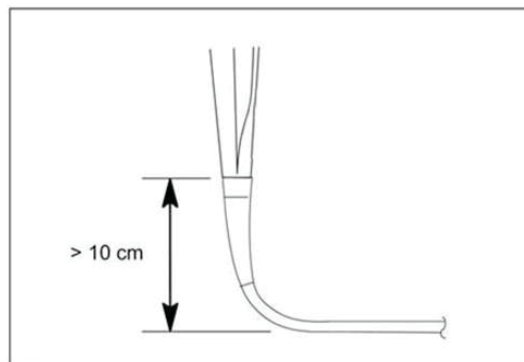

Fig 4.3
- Do not allow the insertion tube to be bent within a distance of 10 cm or less from the junction of the protective boot. Insertion tube damage can occur (Fig 4.3).